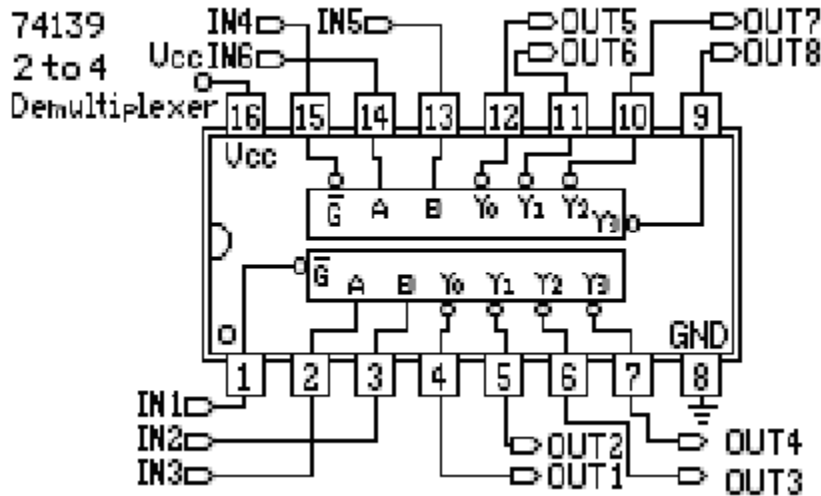

Figure 4-14
1. 2 to 4 decoder circuit as figure 4-14.